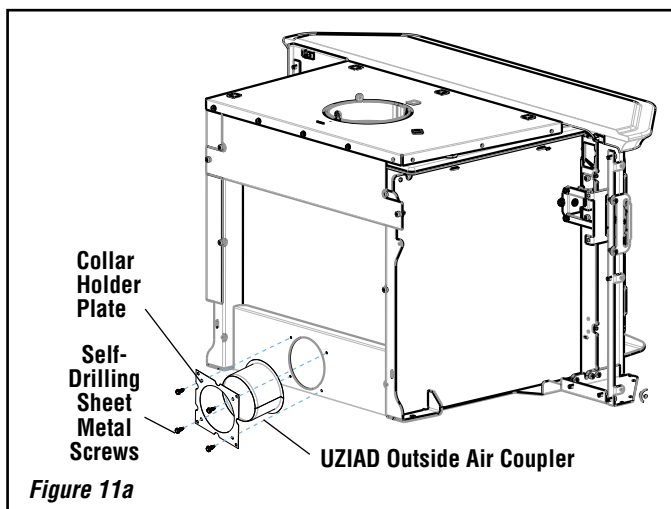

Figure 11a
Collar with Collar Holder: Center the 4" dia. collar on the air intake opening and then secure with the collar holder, using the four (4) 5/8" Tek Screws provided, lining the plate up with the capture holes on the unit. In some instances the capture holes may be absent; the tek screws should then be used to start the holes directly (**Figure 11a**).